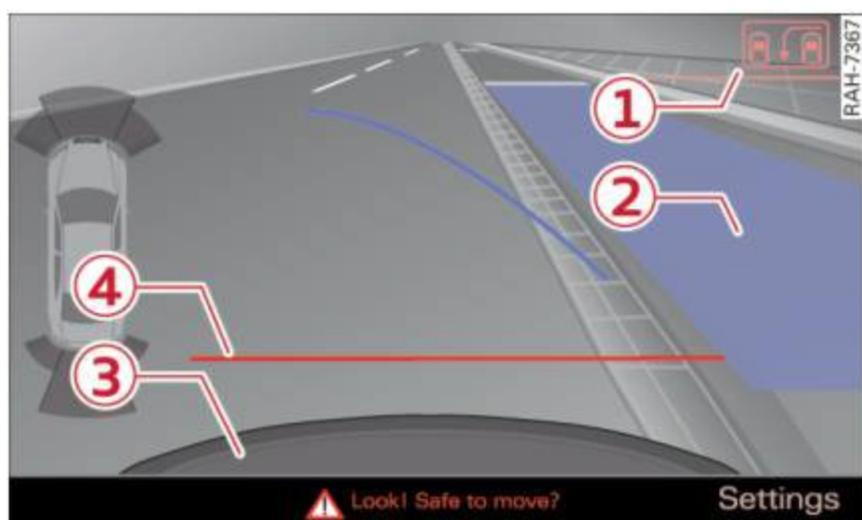

Fig. 117 MMI Display: blue surface in the parking spot
- ▶ Press the **Mode** ⇒ *fig. 117* (1) control button on the MMI control console. Parking mode 2 appears.
- ▶ Back up in reverse gear and align your vehicle so that the blue area (2) borders on the rear end of the vehicle or on the parking spot line. The blue area represents an extension of the vehicle's outline by approximately 16 ft (5 m) to the rear. The long side of the blue area should be